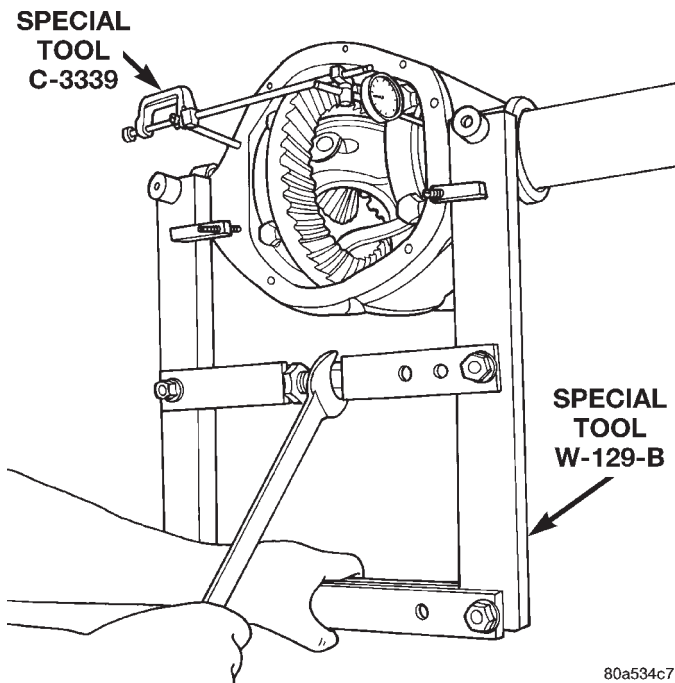

Fig. 26 Spread Axle Housing
(9) Spread the housing enough to remove the differential case from the housing. Measure the distance with the dial indicator (Fig. 26).
- (3) Spread the housing enough to install the case in the housing. Measure the distance with the dial indicator (Fig. 26).
- (4) Remove the dial indicator.
- (5) Install differential case in the housing. Ensure that the differential bearing cups remain in position on the differential bearings and that the preload shims remain between the face of the bearing cup and the housing. Tap the differential case to ensure the bearings cups and shims are fully seated in the housing.